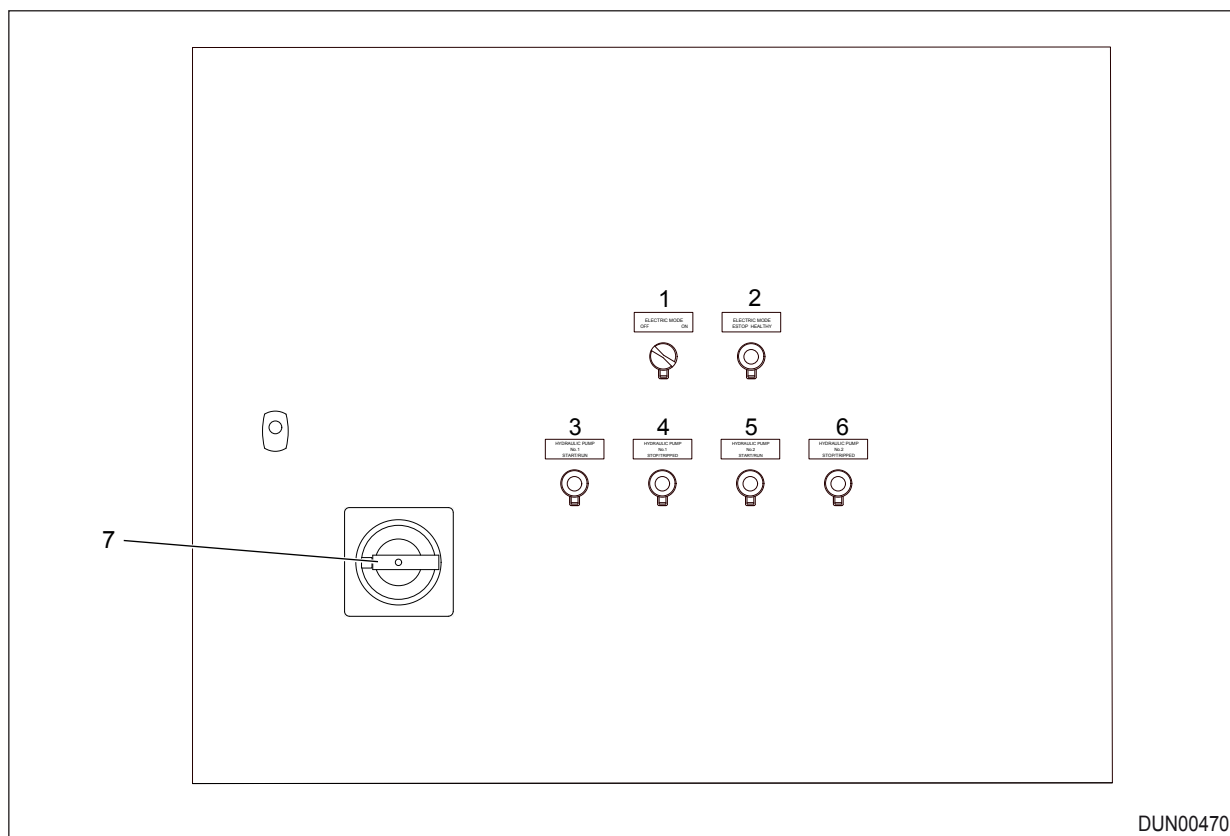

Figure 7.18 - Tier 4 Dual Power Control Panel
1. Ensure the Electric mode switch (item 1) is OFF, Ref: Figure 7.18.